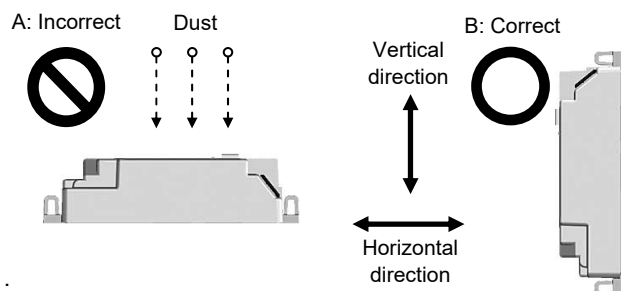

Figure 13. Mounding direction
- Mount Inflex FC with the front surface facing horizontal direction unless it is protected in a dust-proof housing. (See 'B' in Fig. 13.) If the Inflex FC is mounted with its front surface facing the vertical direction (upwards), dust may accumulate on the connectors. (See 'A' in Fig. 13.)